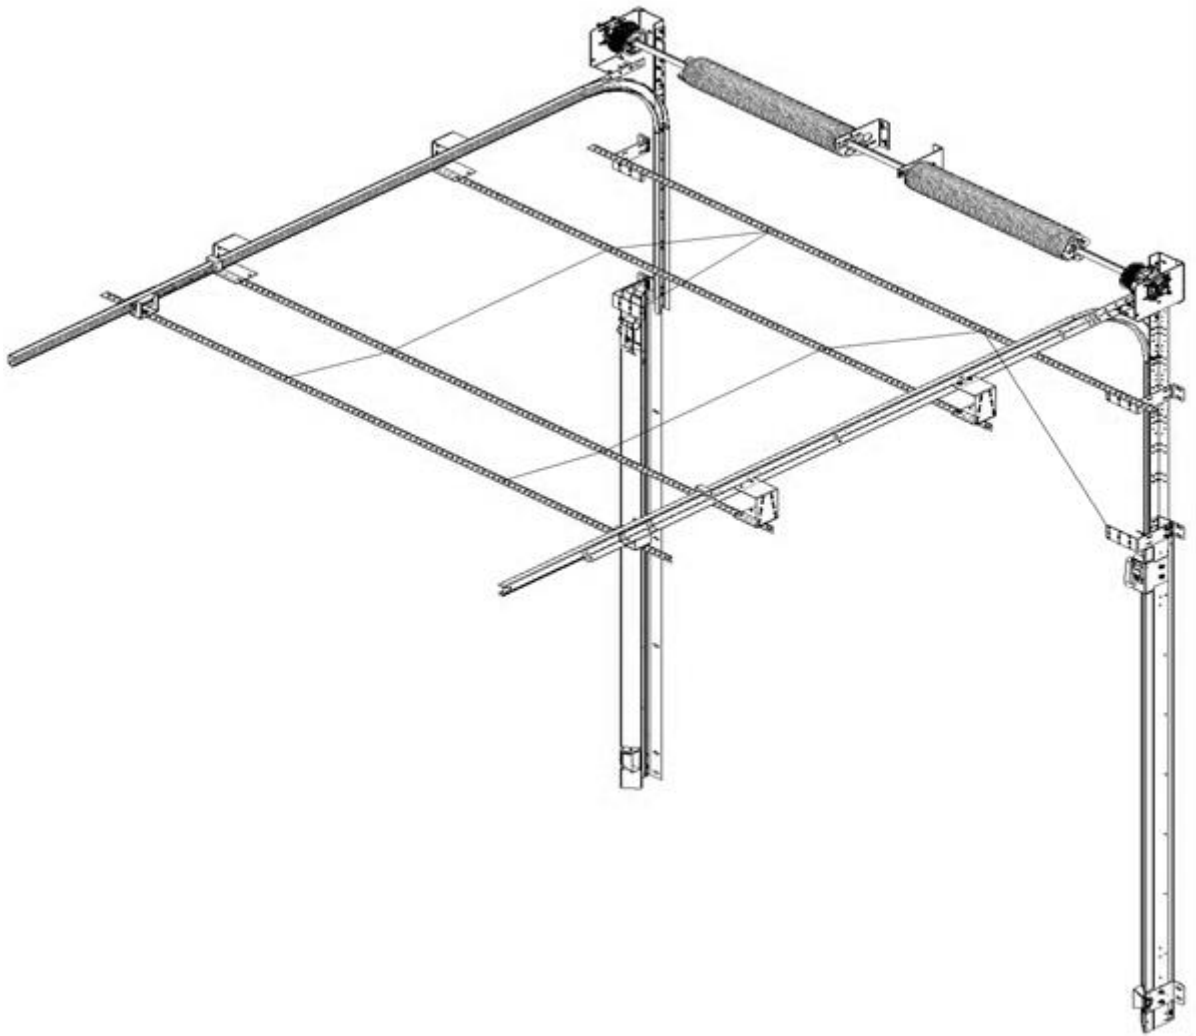

Figure 20
5. Thread cable through holes in Perforated Angle as shown in **Figure 20**.